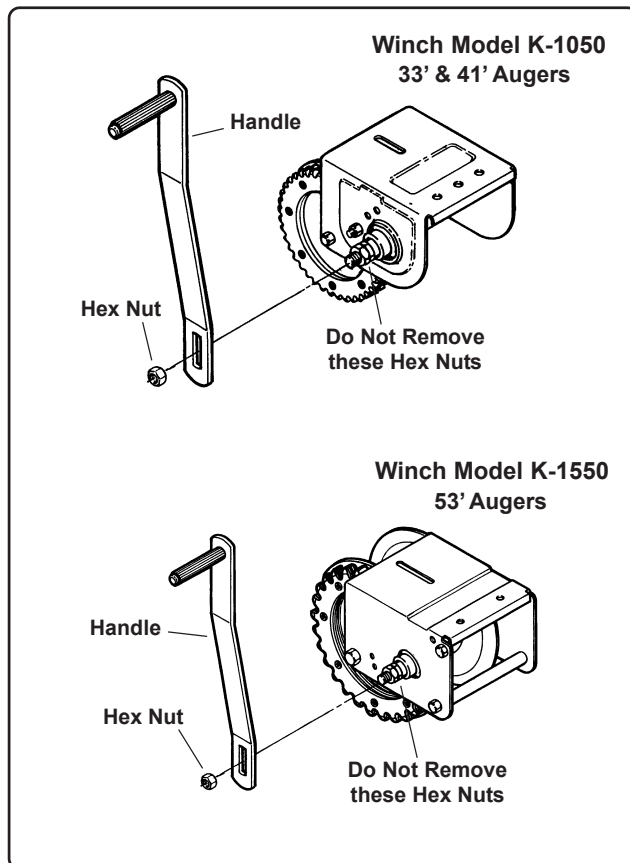

Fig. 11
1. Align the slot of the handle with the flat portion of the winch shaft. Use the hex nut to hold the handle in place and tighten securely (See Fig. 11).